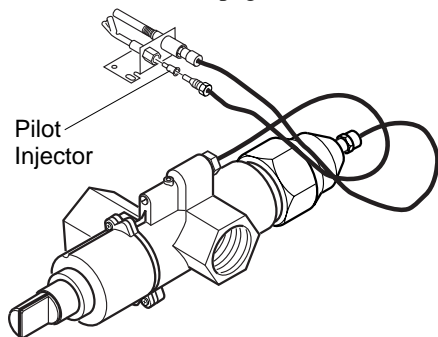

Figure 16 - Installing Propane/LP Pilot Orifice
1. Gently loosen and remove the pilot line connection from the bracket (see Figure 16).
2. Replace the injector (see Figure 16) with the propane/LP pilot injector with the red stripe.